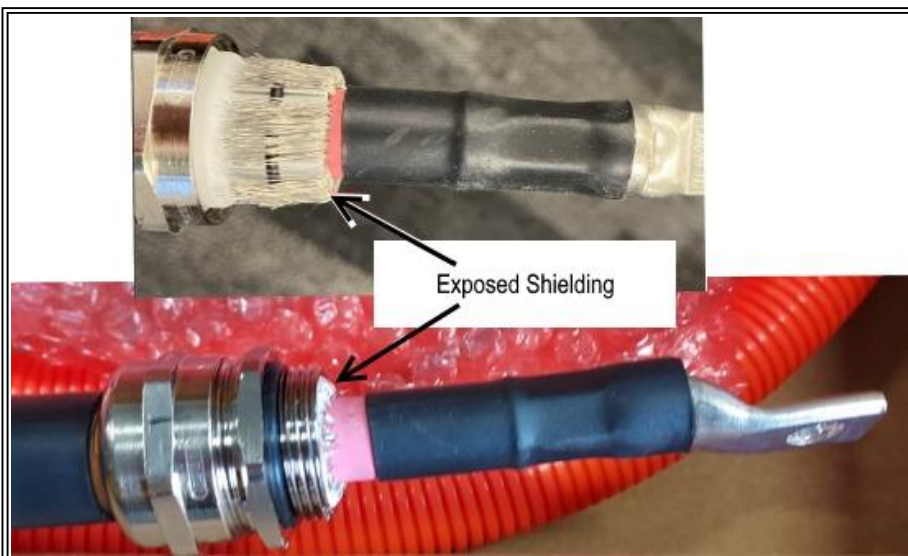

Figure 3 :DC Cable with exposed shielding
2. Figure 3 is the DC cable type with exposed shielding that will need to have the cable measured and the shielding properly positioned before installing.